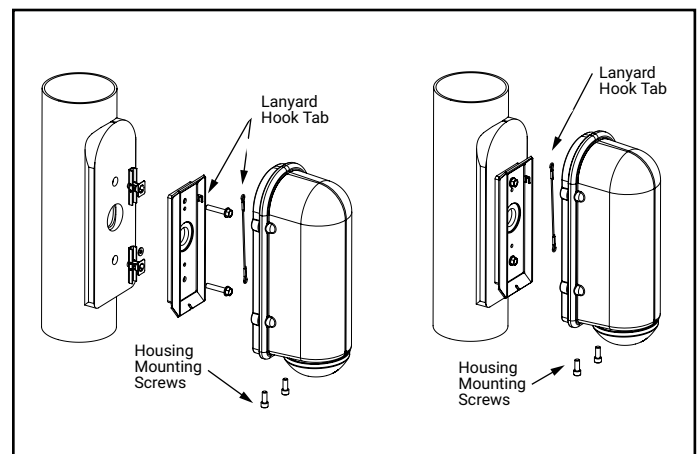

Figure 4
**Note:** 3' of leads are provided extending outside the housing. (Figure 4)
**Note:** Do not to pinch the lanyard cable when installing the housing. Once the housing is in position, tighten using (2) set screws. Tighten until screw is bottomed out.